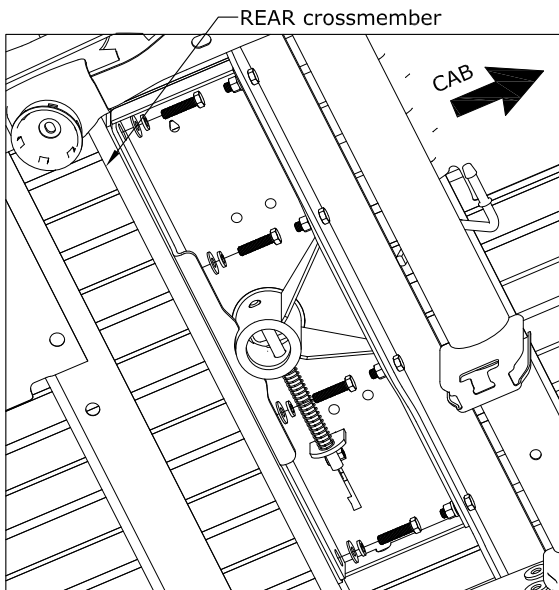

Figure B11: View under the center section looking from in front of the axle on the passenger side.
6. **Attach the rear crossmember to the center.** Slide the rear crossmember up against the center section. Line up the slots in the center with the threaded holes in the crossmember. Attach the two members using  $\frac{1}{2}$  x 2" long bolts, flat washers, and lock washers as shown in Figure B11. Hand tighten bolts.